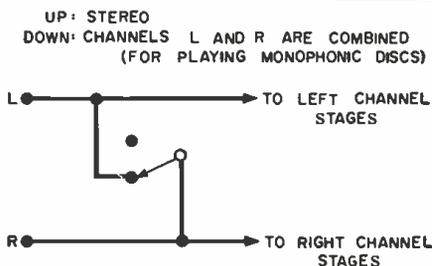

Fig. 11. Switch for combining channels.
3. *Monophonic Disc Switching:* This combines the left and right signals and feeds the sum signal to both channels, as illustrated in Fig. 11. This is desirable when playing a monophonic disc with a stereo cartridge because the audio (lateral) signals are added in-phase, while the rumble (vertical) sig-